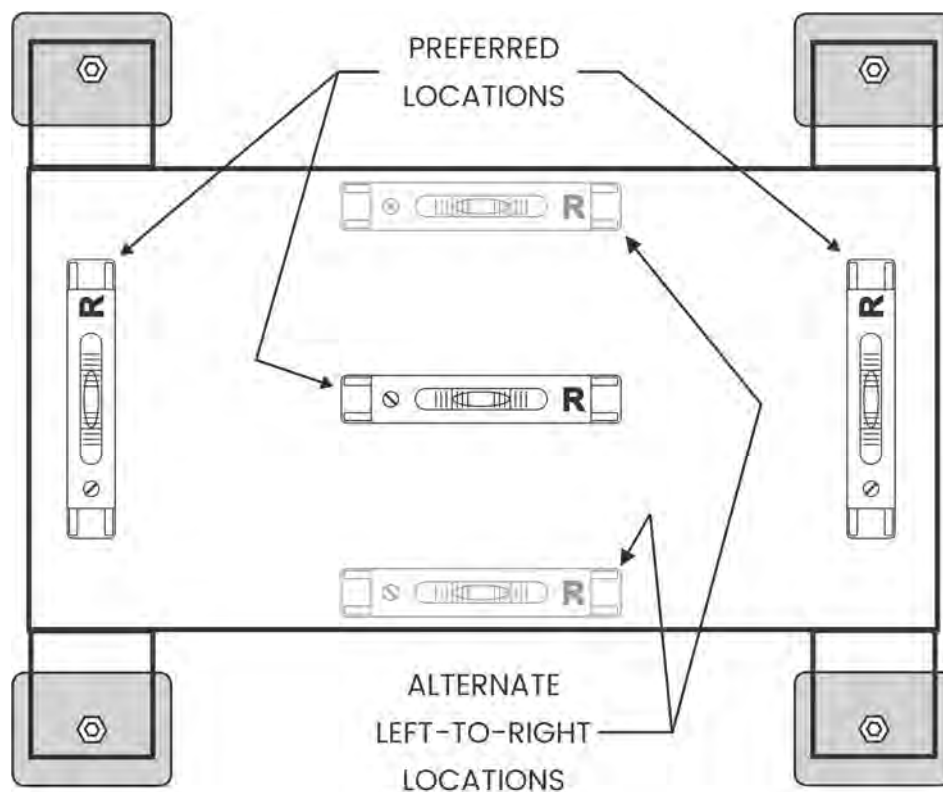

Figure 4
If you can't find a good spot to place the level, the bolster plate should be ground flat and parallel. If there are just a few scratches or small dents, you can usually correct it by stoning the area with a fine-grained stone. Don't use a file or coarse stone; you may remove too much metal. All you want to do is remove the raised metal around the scratches and dents. Remember, you are measuring this surface to tens of a thousandths of an inch or better. The level should be positioned so that it is parallel to the front and rear edges for left-to-right readings, and parallel to the left and right edges for front-to-rear readings, as in Figure 4.
- Repeat Steps 1 through 8 until the press is level at all of the level locations shown in Figure 4.